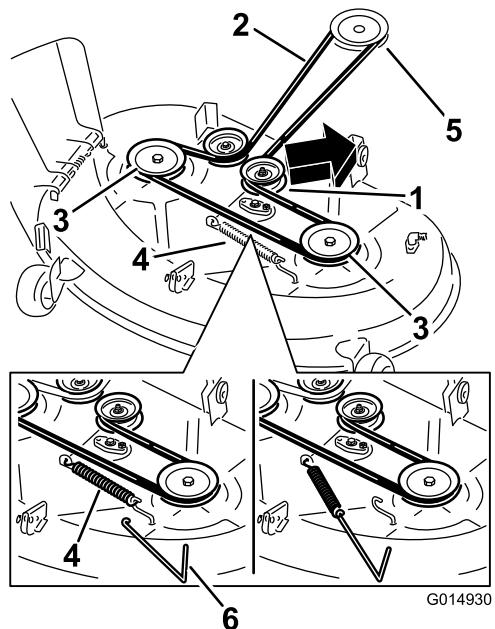

Figure 57
- Using a spring removal tool, (Toro part no. 92-5771), remove the idler spring from the deck hook to remove tension on the idler pulley and roll the belt off of the pulleys (Figure 57).
5. Route the new belt around the engine pulley and mower pulleys (Figure 57).
6. Using a spring removal tool, (Toro part no. 92-5771), install the idler spring over the deck hook and placing tension on the idler pulley and mower belt (Figure 57).